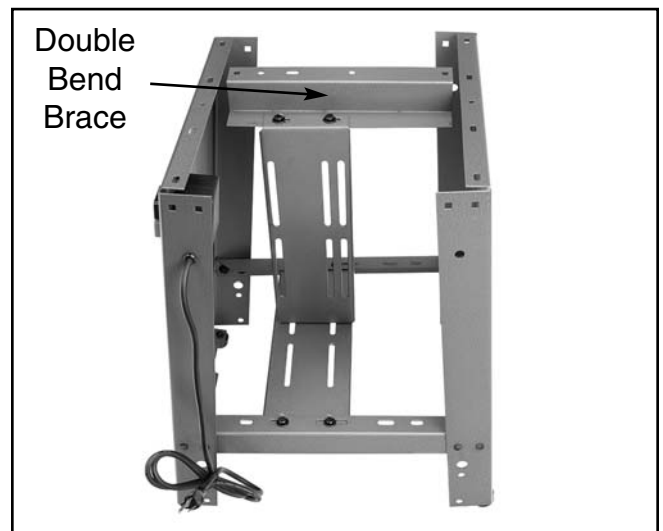

Figure 7. Mount double bend brace.
- Mount the double bend brace to the motor mount plate. Use (2) $\frac{5}{16}$ "-18 x $\frac{3}{4}$ " hex bolts, (8) flat washers and (2) hex nuts. **See Figure 7.**